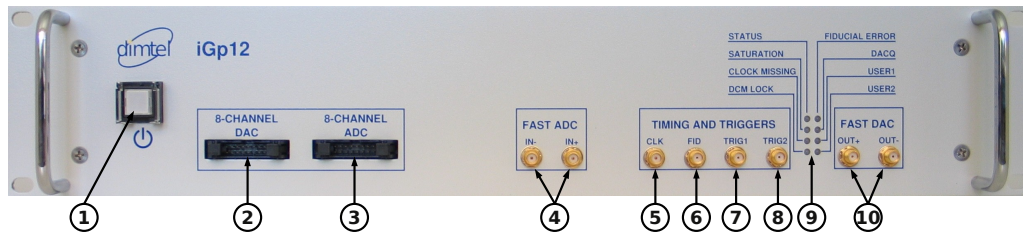

Figure 3: Front panel features
1. Connect **RF** clock at -3 dBm nominal level (Fig. 3, item 5);
2. Connect single-ended high-speed **ADC** input signal to **Ain+** (Fig. 3, item 4). The **FS** swing of this signal should be 780 mV peak-to-peak;
3. Connect a $50\ \Omega$ terminator to **Ain-** (Fig. 3, item 4);
4. Connect high-speed **DAC** output(s) (Fig. 3, item 10) to the appropriate back-end unit;
8. Push the power button (Fig 3, item 1) to turn on the system;
10. Push the power button (Fig 3, item 1) to turn the system off;